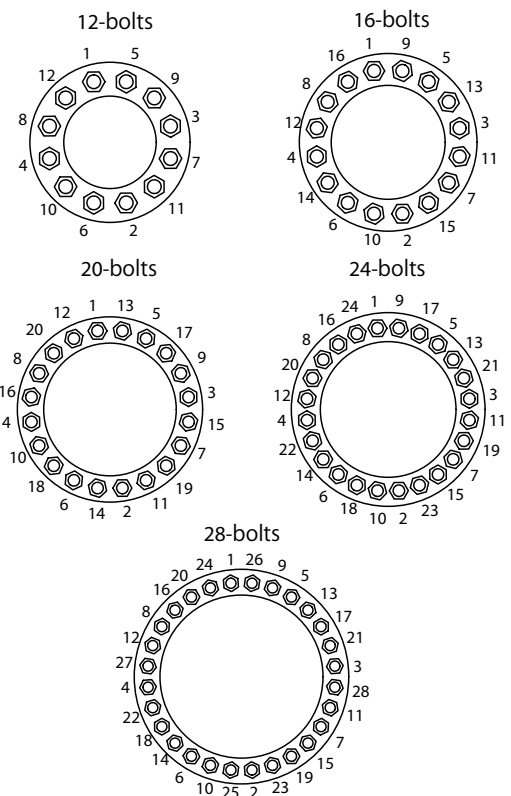

Figure 4
44. Press the valve with a press, and tighten the nuts (#11). Use the specified press compression as per Table C and nut torque values as per table A. When tightening in the crossing pattern (as per Fig. 4), cycle through the pattern at least three (3) times to assure proper and uniform torque.